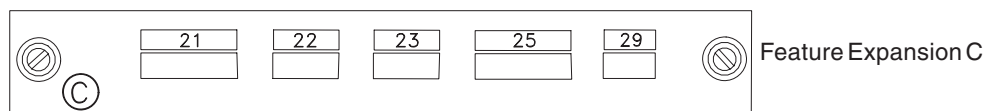

Figure 141. Feature Expansion C
1. Mark an X on Figure 141 to indicate the socket in which the device cables are attached to Feature Expansion C: